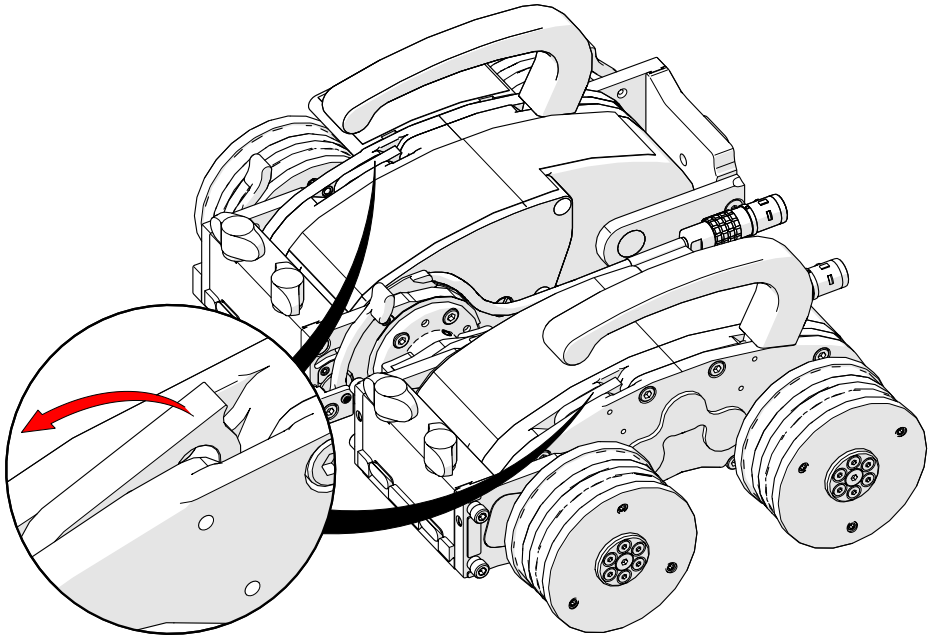

Fig. 9 - Lift tether attachment points
1. Lift the two tether attachment points (*Fig. 9*).